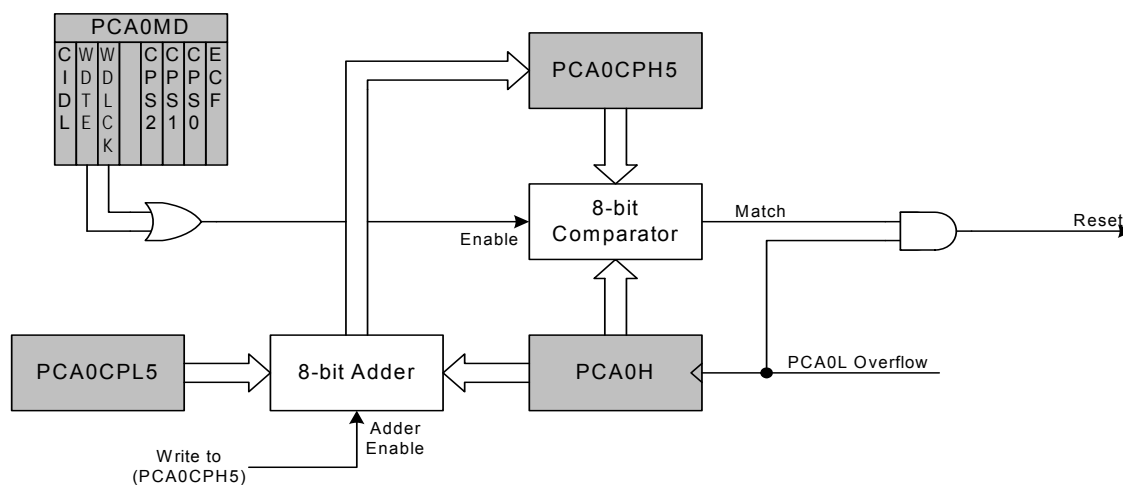

Figure 32.11. PCA Module 5 with Watchdog Timer Enabled
While the WDT is enabled, writes to the CR bit will not change the PCA counter state; the counter will run until the WDT is disabled. The PCA counter run control bit (CR) will read zero if the WDT is enabled but user software has not enabled the PCA counter. If a match occurs between PCA0CPH5 and PCA0H while the WDT is enabled, a reset will be generated. To prevent a WDT reset, the WDT may be updated with a write of any value to PCA0CPH5. Upon a PCA0CPH5 write, PCA0H plus the offset held in PCA0CPL5 is loaded into PCA0CPH5 (See Figure 32.11).